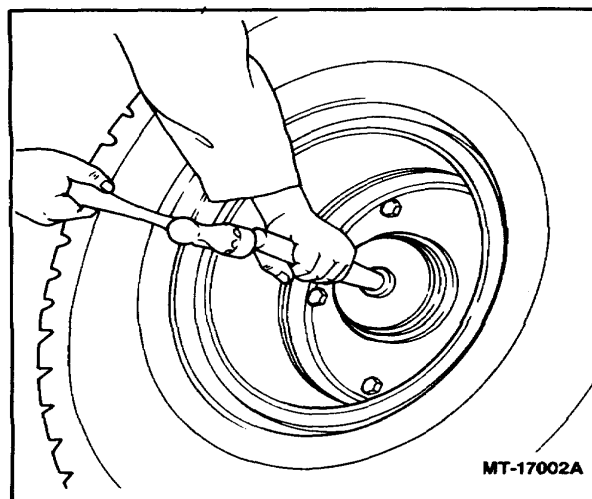

Figure 25.
4. Hold tool handle firmly and strike until sound of impact changes when seal is seated (Figure 25). Then inspect seal to be sure it is uniformly seated but not crushed. Remove excess sealant.